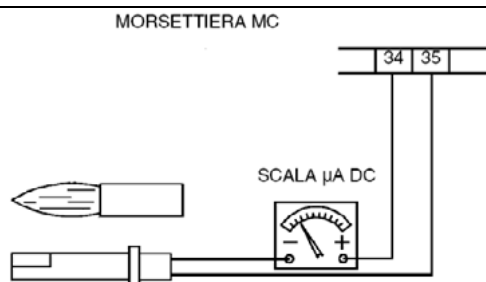

Fig. 12
- inspect and thoroughly clean the flame detection photoresistor and replace if necessary. In case of doubt, check the detection current after first starting the burner by following the procedure illustrated in Fig. 12.
To measure the detection current, refer to the diagram in Fig. 12. If the signal doesn't suit the suggested value, verify the electric terminals, the cleaning of the combustion head and the position of the photoelectric cell and replace it if required.